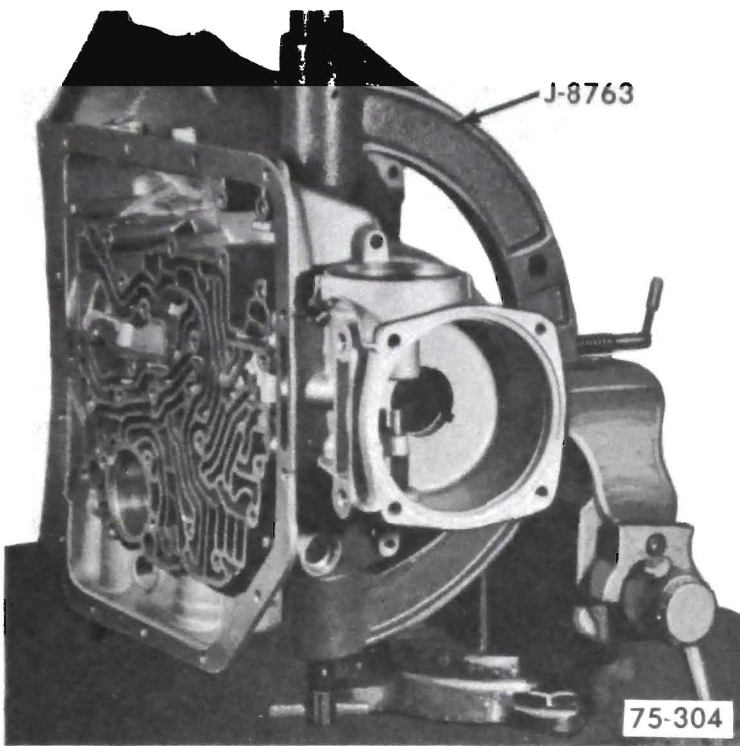

Figure 75-288
3. Assemble transmission case in fixture J-8763 and mount in a vise. See Figure 75-288.